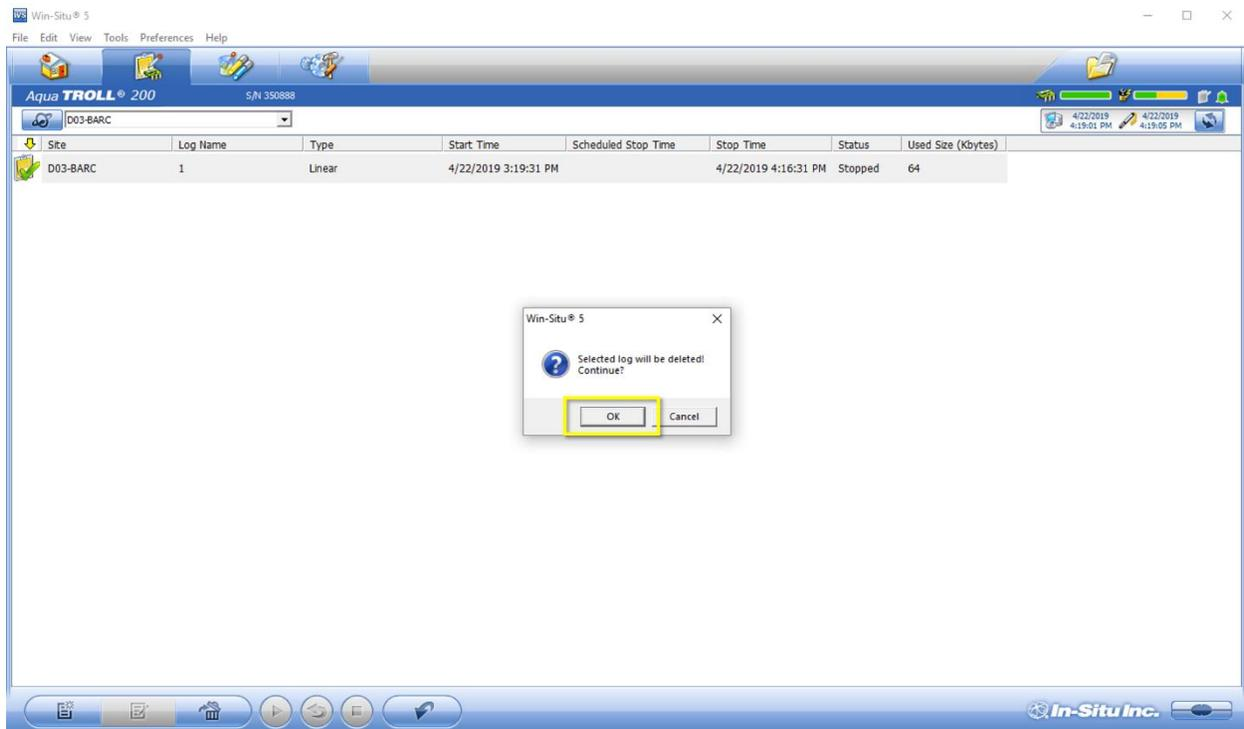

Figure 34. Click "OK" to Proceed when Prompted via the Pop-up Window
2. A pop-up window appears stating the “Selected log will be deleted! Continue?” Click “OK” to continue (Figure 34).